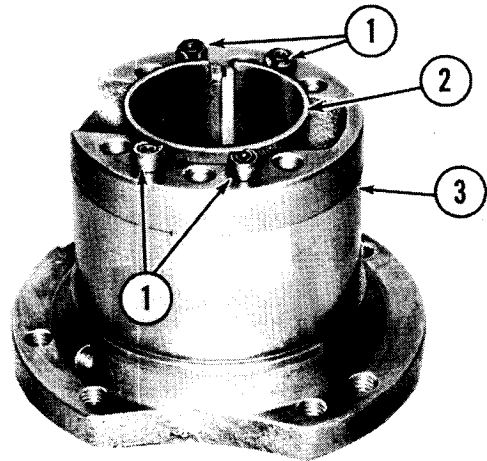

Figure 3-15
Remove the roll pins (1, Fig. 3-15) from the guide wheel carrier (3) only if replacement is necessary. Remove the split sleeve (2) from the carrier.